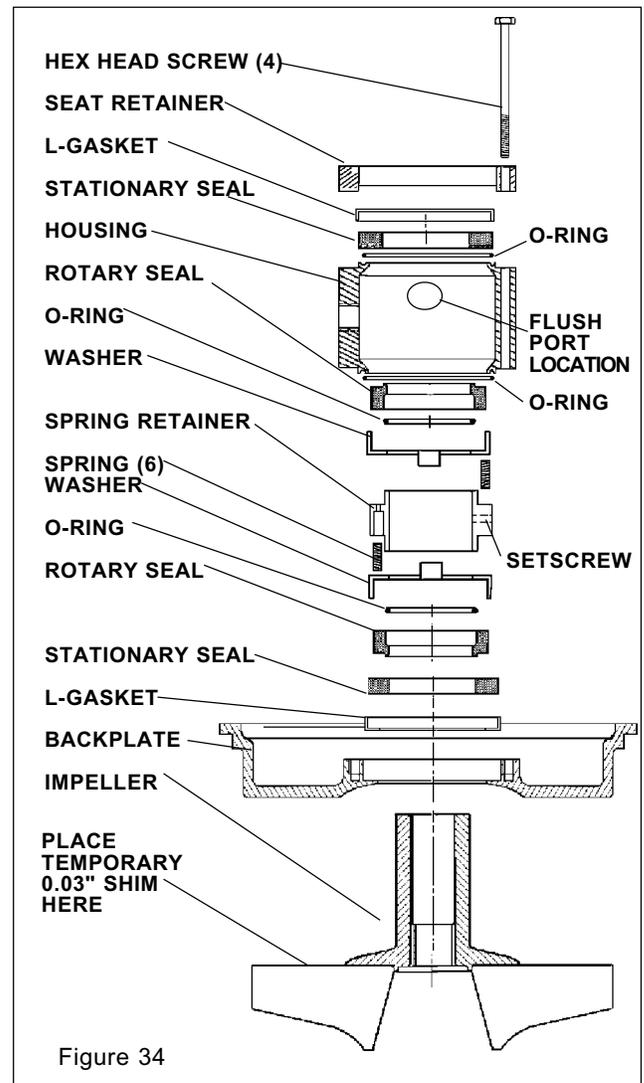
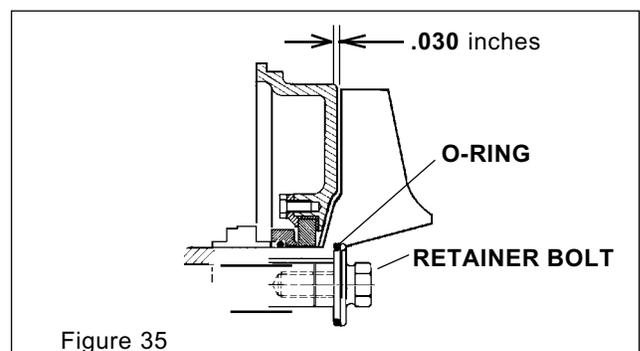

Figure 34
Figure 35
2. Install L-gaskets in backplate, flush housing and seat retainer. Install stationary seals in L-gaskets. (Figure 34)
3. Place backplate and rotary seal onto impeller shaft. Temporarily put 0.03" shims between the impeller vane and back plate to preset clearance. **Besure to remove shims befor final assembly** . see figure 34 Place O-ring on shaft and use spring retainer as tool to push O-ring into rotary seal.
5. Place the remaining three (3) springs in the spring retainer. Slide the washer and O-ring onto the shaft against the spring retainer. Use the the seat retainer to press the O-ring into rotary seal.
6. Remove 1/4 NPT plug from center port on flush housing and install an O-ring in both ends of housing. Install housing over seal assembly. With flush ports facing away from the backplate place seat retainer on housing and tighten in place with four (4) hex screws. **BE SURE TO TIGHTEN SCREWS EVENLY UNTIL FULL METAL TO METAL CONTACT IS MADE ON BACKPLATE AND SEAT RETAINER.**
7. Check impeller/backplate clearance with the backplate held firmly in position against motor adapter, the clearance between the backplate and impeller vanes should be .030-inch. (Figure 35) *See shims, page 28 and Pump Assembly, page 43.* Be sure preset shime are in place before thightening. Add or remove shims to motor shaft as required and tighten set screws in the spring retainer through 1/4 NPT center port in flush housing. Insert plug in port and tighten. (See Figure 34)
8. Remove backplate/impeller assembly and apply anti-seize or equal compound to the motor shaft and install key. Install backplate/ impeller assembly and lock in place using O-ring and impeller retainer bolt. (Figure 35)